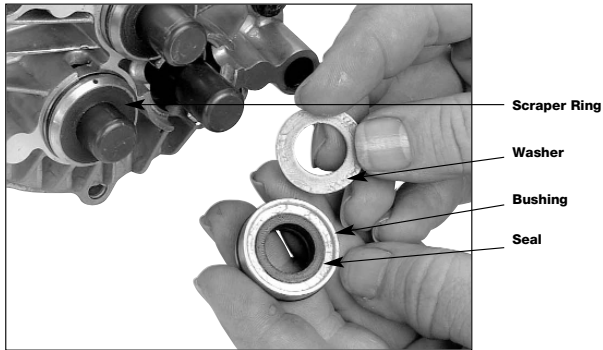

figure 17
1. Remove low-pressure bushing from piston. (figure 17)
2. Remove washer from bushing. (figure 17)